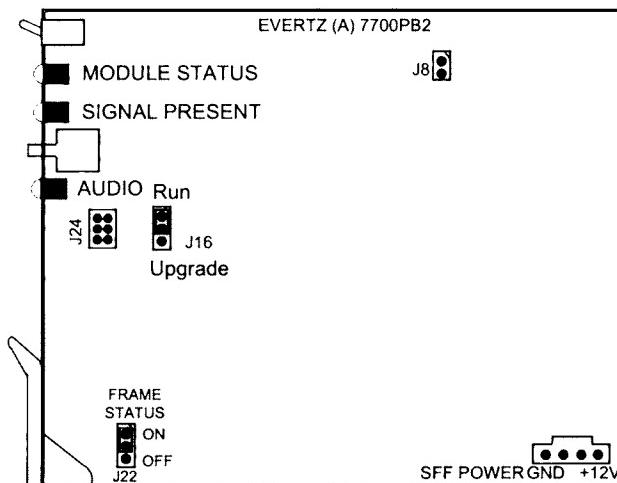
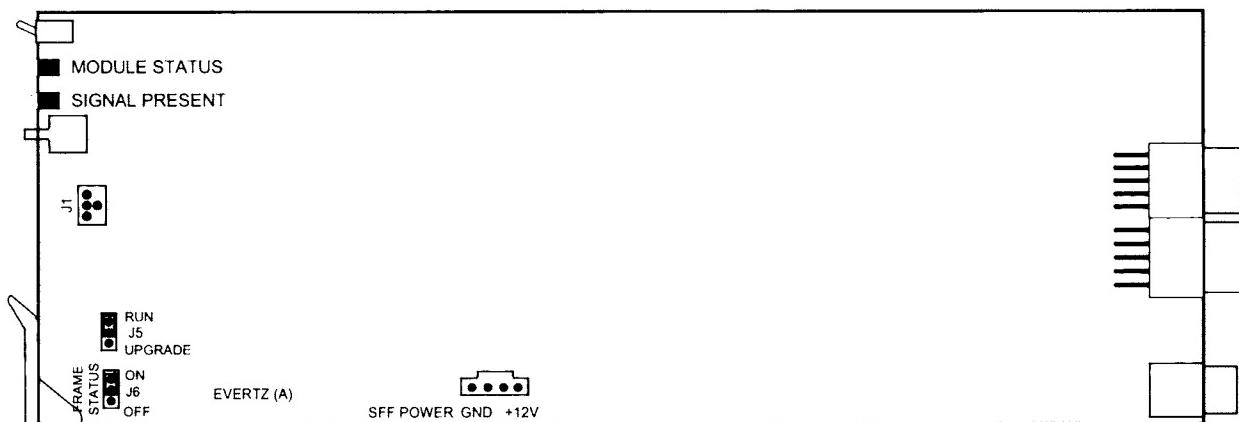

Figure 2 : Location of UPGRADE Jumper on Rev A and later 7700PB and 7700PB2 Boards
Figure 4 : Location of UPGRADE Jumper on 7761AVM-DC Boards
2. Connect the 7700PB Serial Upgrade cable to the 2 row x 3 pin header labelled J24 on the front edge of the 7700PB board as shown in Figure 2. Install the cable with the ribbon cable towards the front of the board. (On the 7761AVM-DC, look for the J1 connector. On the 7765AVM-4 "Quattro" look for J14 connector on the lower left, card edge on the Rev B - A7700CC board. See figures 4 and 5 for further details.)
3. Move jumper J16 to the UPGRADE position as shown in Figure 2. (On the 7761AVM-DC, look for the J5 connector. On the 7765AVM-4 "Quattro" look for J15 connector on the lower left, card edge on the (B)A7700CC board.)